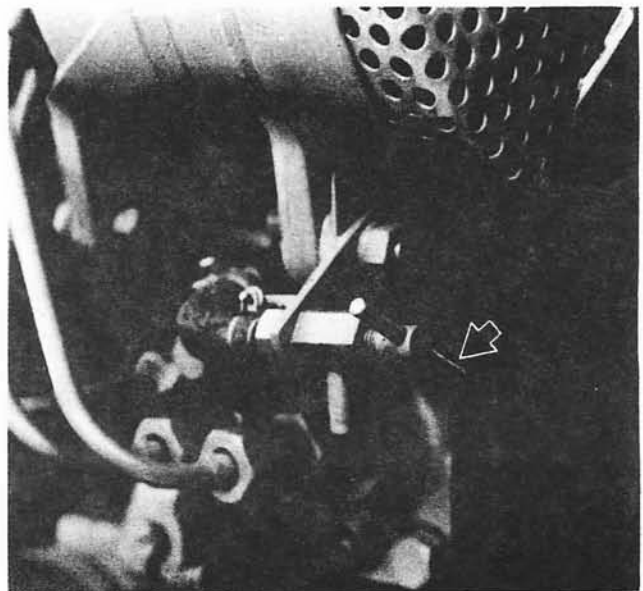

Figure 27 – Fuel System Bleed Cock
4. Open the bleed cock (Figure 27) and let the air bubbles escape while cranking the engine close bleed cock.